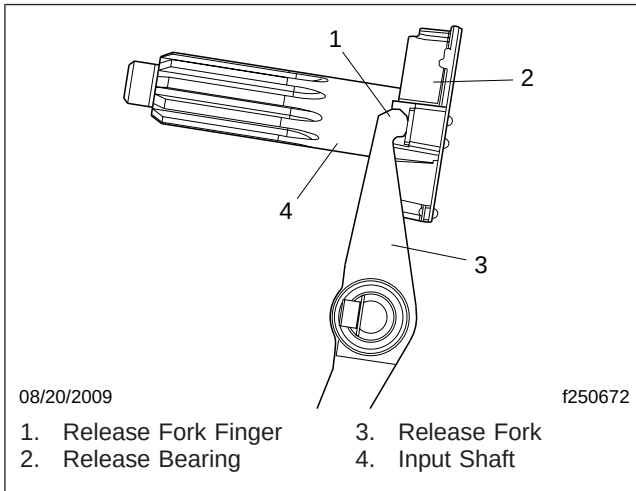

Fig. 13, Input Shaft, Release Bearing, and Release Fork
5. Inspect the input shaft, both the splined and the smooth area, as follows. See Fig. 13.
6. Check for excessive wear at the fingers of the release fork. See **Fig. 13**.